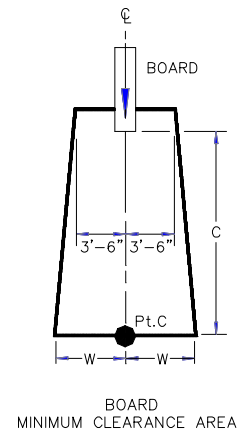

FIGURE 35
- A. The minimum clearance area in front of a properly installed diving board on an inground swimming pool is a minimum distance of three feet six inches (3'-6") on either side of the board's centerline as shown in FIGURE 35. Pt. C extends a minimum distance of "C" from the tip end of the board as shown in FIGURE 35. The width distance "W" on either side of Pt. C is given in CHART 1 and shown in FIGURE 35.